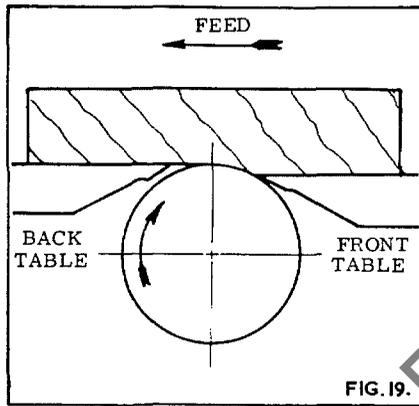

FIG.19.
1. To obtain the best surface finish always check the direction of the grain, which should run with the cutter as in fig. 19.